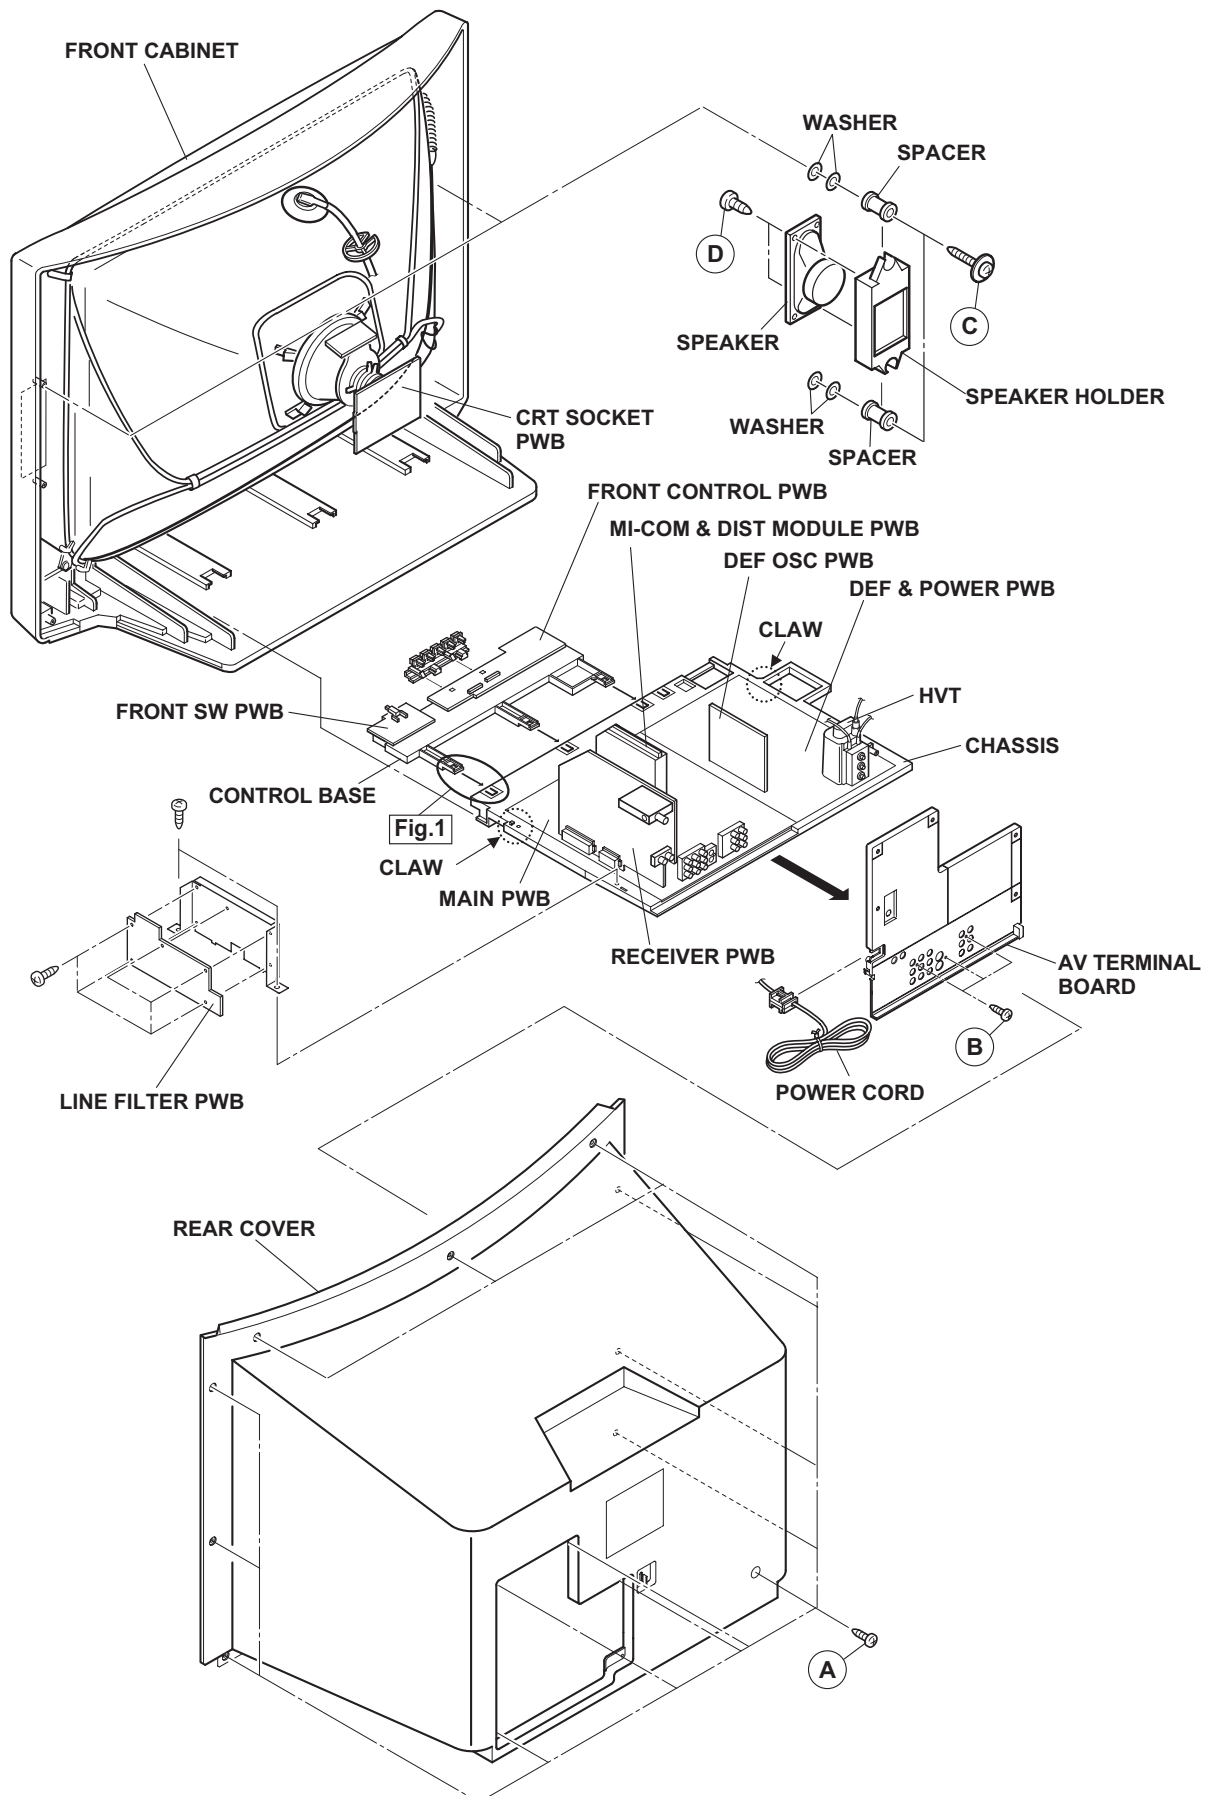

Fig.2
- (1) Remove the 14 screws **[A]** as shown in Fig.2.
- (2) Remove the REAR COVER toward you.
- (1) Remove the 2 screws **[C]** as shown in Fig.2, then remove the SPEAKER HOLDER.
- (2) Remove the 2 screws **[D]** as shown in Fig.2, then remove the SPEAKER.
- (3) Follow the same steps when removing the other hand SPEAKER.
- (1) Remove the 3 screws **[B]** as shown in Fig.2.
- (2) Withdraw the AV TERMINAL BOARD toward you.